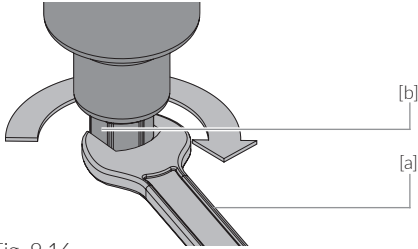

Fig. 9.16
- / Fig. 9.16: Grasp the flats of the maintenance nut [b] with an open-end spanner SW27 [a]